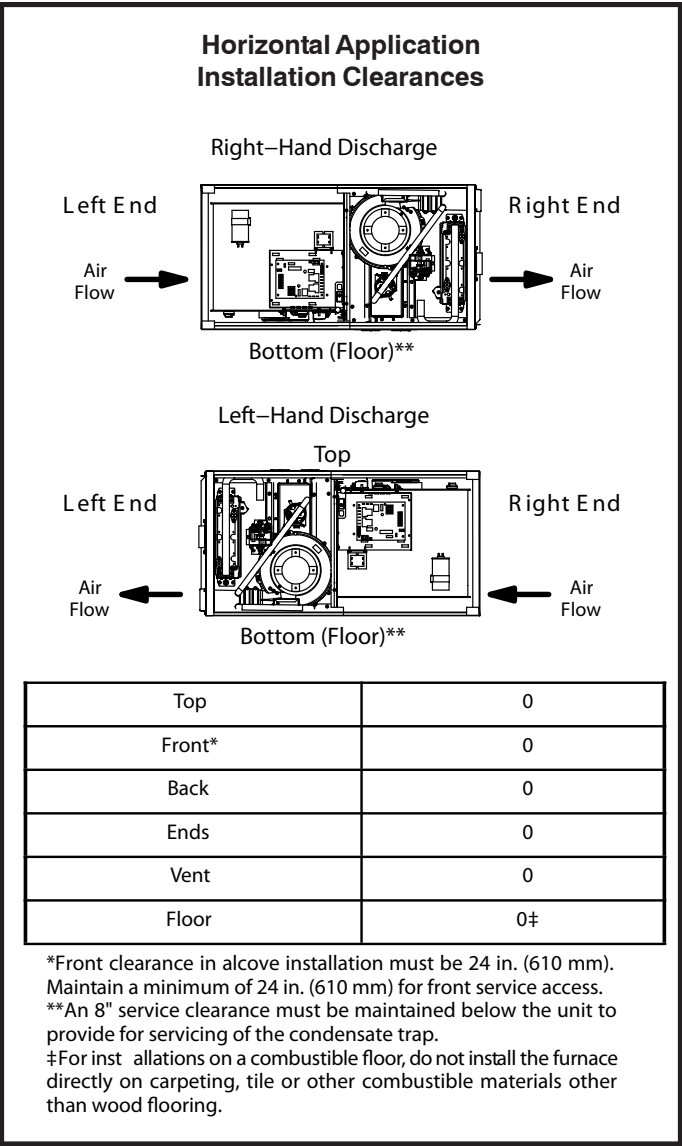

Figure 15
Refer to Figure 15 for clearances in horizontal applications.
1. Select location for unit keeping in mind service and other necessary clearances. See Figure 15.